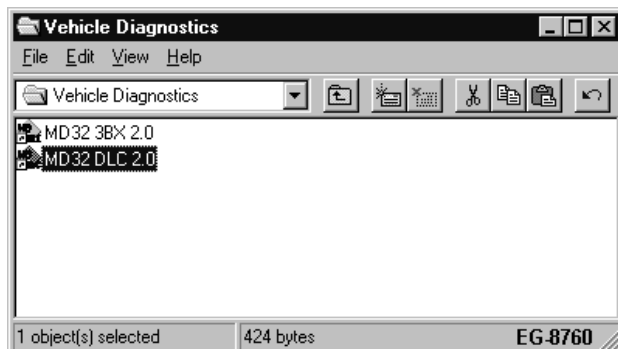

Figure 205 Vehicle Diagnostics Open Window
3. The **Vehicle Diagnostics** window will be displayed. Depending on your vehicle, you can open up Master Diagnostics for engines using a 3 box engine controller or for those that use the single box Diamond Logic™ controller (See Figure 205, page 395).